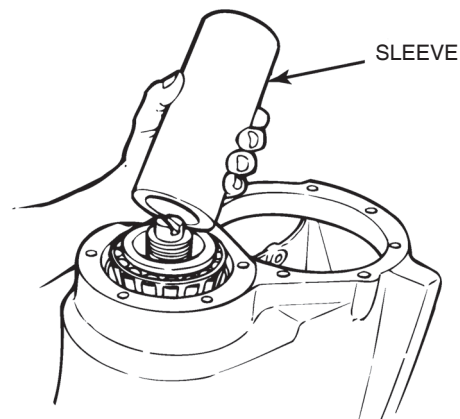

Figure 5.9
4. Use a press and a sleeve to install the bearing cone in the pinion. Apply no more than two tons (1814 kg) of force to verify that the bearing cone is correctly installed. Figure 5.9.